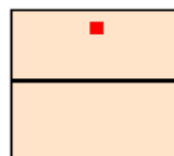

Figure 2-26 Node Hardware Resource Representation
3. Drag and drop the object in the Resource Editor. The object is available in the Editor. A sample of the object appears as shown in Figure 2-26 .